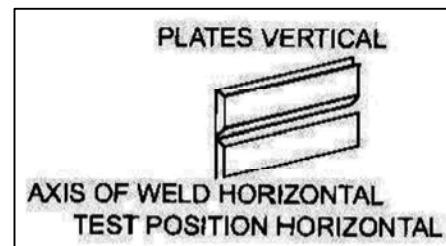

Figure A6.6 Horizontal Position
- (2) Horizontal Position (figure A6.6) – Plate in a vertical plane with the axis of the weld horizontal.